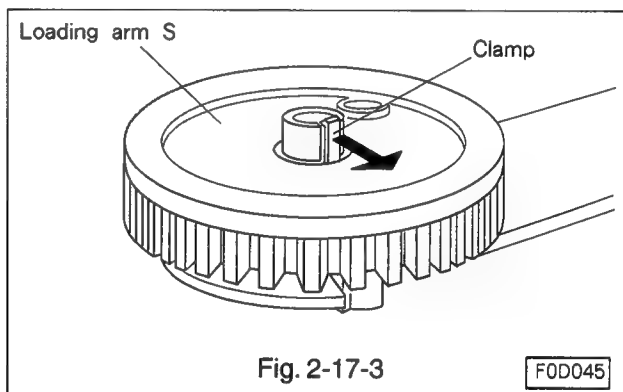

Fig. 2-17-3
- G. Unfasten the clamp shown in Fig. 2-17-3, and remove loading arm S.